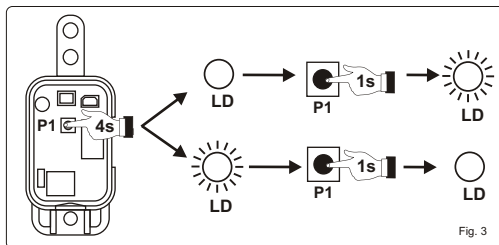

Fig. 3
1) Press and hold the push-button P1 for 4 sec. until the green led LD comes ON (Fig. 3); the led display the current operating mode according to par. 4.